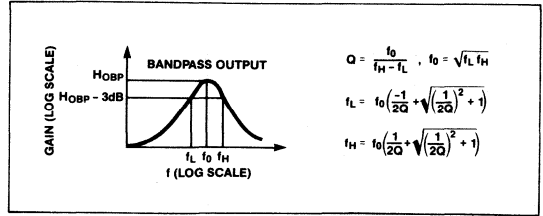

Figure 1. Bandpass Filter Terminology
- H_{OBP}**: The gain in V/V of the bandpass output at f=f₀. See Figure 1.